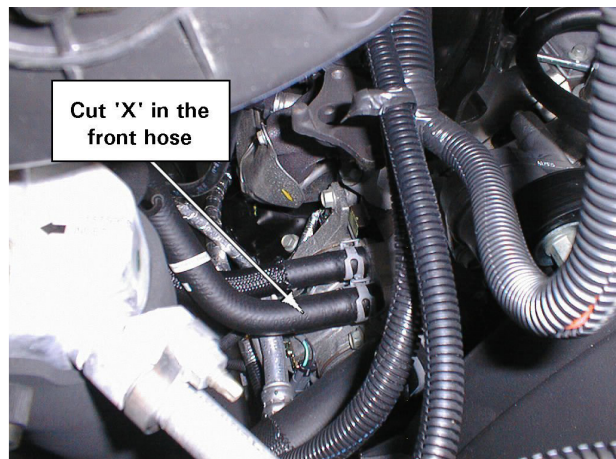

Figure 2. Cut Small 'x' in Water Pump Hose
- a. One method for recapturing the antifreeze is to insert a hose barb into the water pump hose to drain the coolant. This can be done by cutting a small 'x' in the 3/4" water pump hose approximately 2.5" from the water pump housing. It is located on the passenger side of the water pump and thermostat housing (see Figure 2).